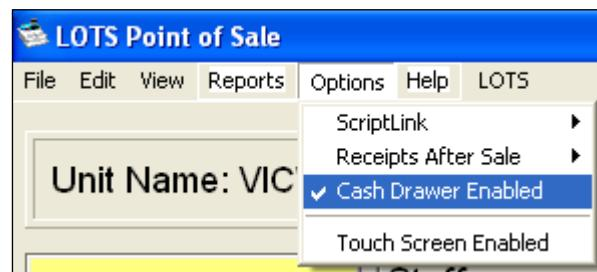

Figure 120
1. From the 'LOTS Point of Sale screen navigate to the Options drop down menu → Cash Drawer Enabled (as shown in Figure 120).